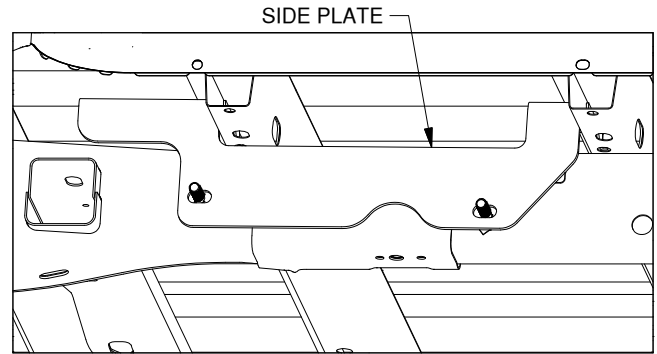
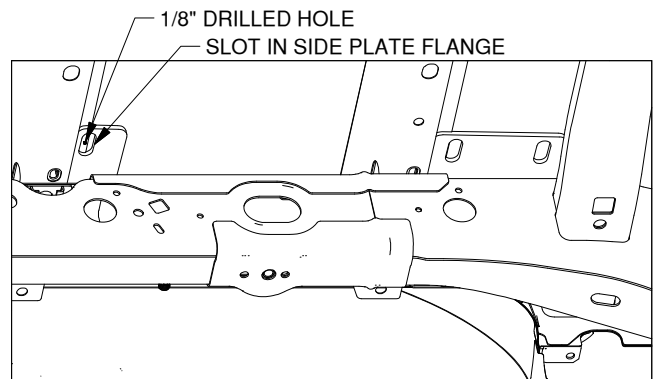

Figure D1: View looking into driver side wheel well.
Figure D2: View looking at the inside of the driver side frame.
1. **Check hole locations.** Using the side plates, align each side plate to the side of the frame where the side plate will be installed, see Figure D1. Check that the 1/8" holes are centered within the slots in the side plate flanges, see Figure D2. If the 1/8" drilled holes are not centered re-drill the 1/8" holes until the brackets and the drilled holes are aligned.